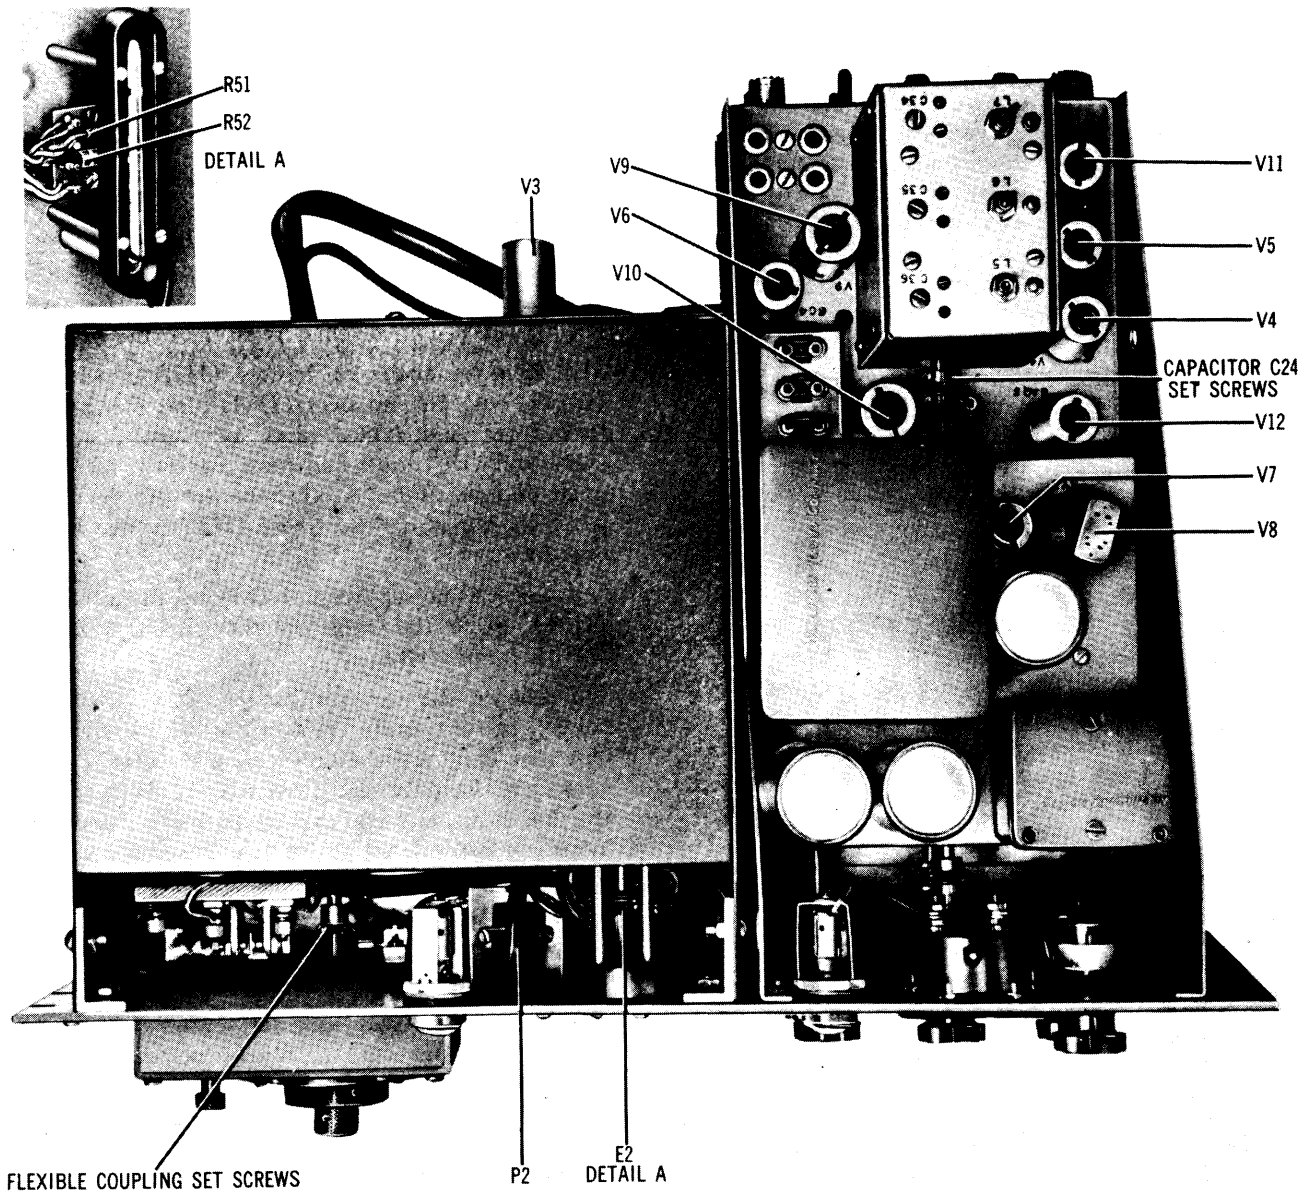

Figure 4-3. Variable Master Oscillator, Top View
- d. Loosen the set screws on the flexible coupling closest to the tuning capacitor (see figure 4-3). Slide the coupling forward and remove the extension shaft.
g. Unsolder the three leads connected to the lugs on OUTPUT FREQUENCY capacitor C24 (see figure 4-3).